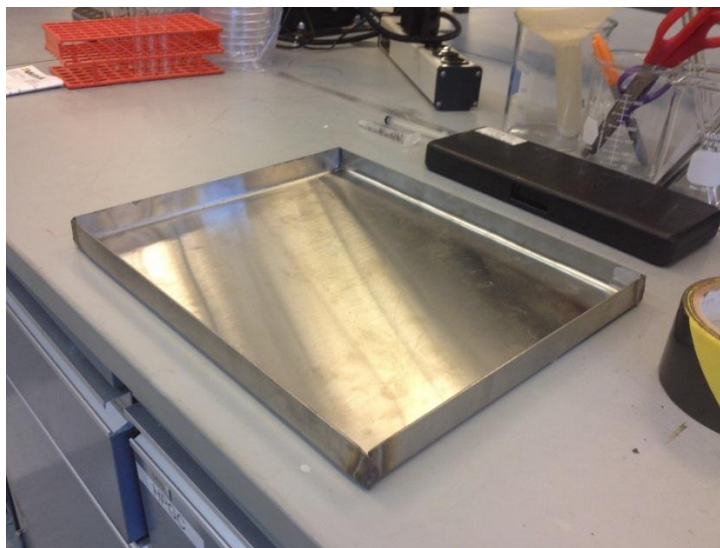

Figure 1. Stainless steel casting tray
10. Hook the vacuum flask up to a tube and place a rubber stopper in the top of the flask. Then, connect the tube to the other vacuum flask. Next, place a stopper with an attachment into the top of the other flask and connect this to the vacuum source. See Figure 1 for the appropriate setup. The second beaker will stop any foam from entering the vacuum. We will now make a vacuum filtration system. The purpose of vacuum filtration is to de-aerate the mixture. This minimizes the bubbles in the solution.